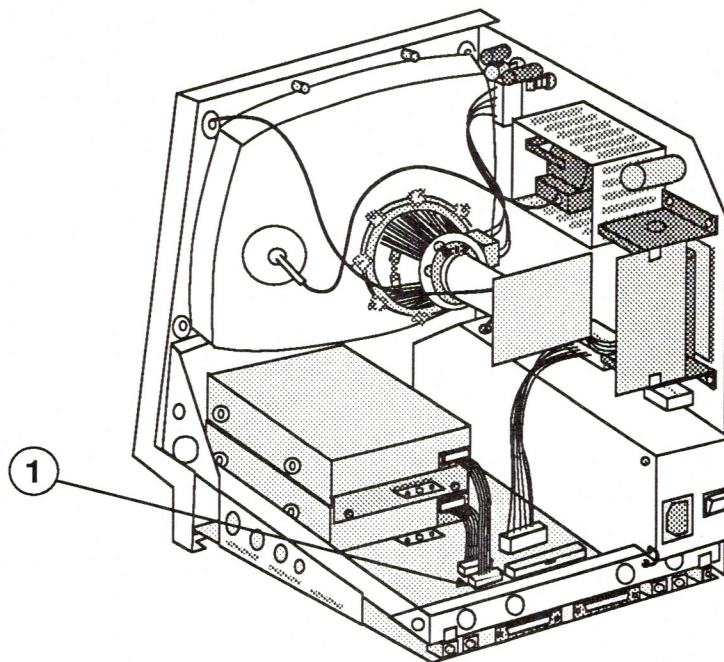

FIGURE 27
6. Reconnect the upper 800K disk drive cable to connector J7 on the main logic board (Figure 27, #1).